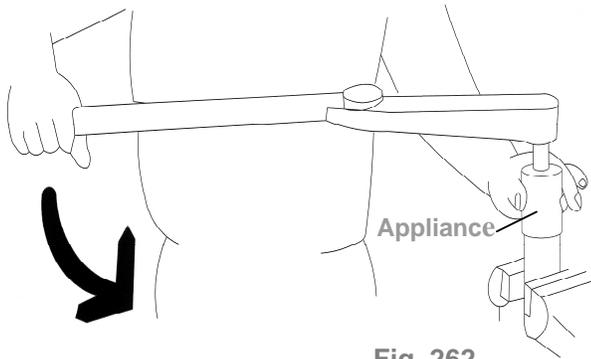

Fig. 262
(3) Pulse Unit Disassembly:
- 1 Fix the pulse unit by a vise. Use the appliance (see Table 34) to loosen the lock nut on the pulse unit, Fig. 262